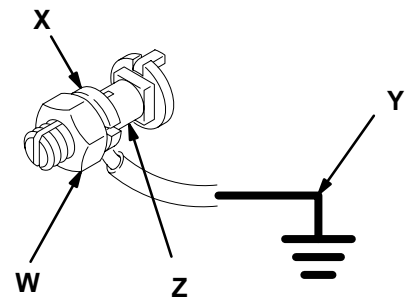

Fig. 3
1. *Pump*: loosen the grounding lug locknut (W) and washer (X). Insert one end of a 1.5 mm2 (12 ga) minimum ground wire (Y) into the slot in lug (Z) and tighten the locknut securely. See Fig. 3. Connect the other end of the ground wire to a true earth ground.